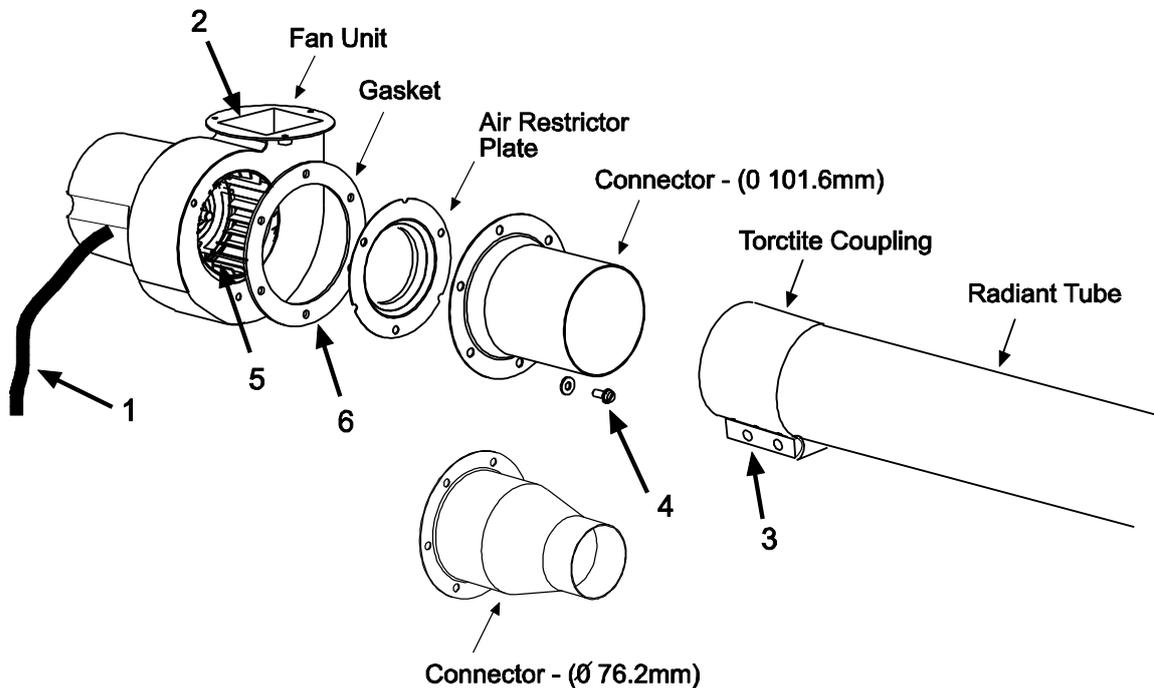

Fig. 46
6. When re-assembling the Orifice Plate and Connector, a new Gasket must be fitted between the Fan housing and Orifice Plate (see Fig. 46).